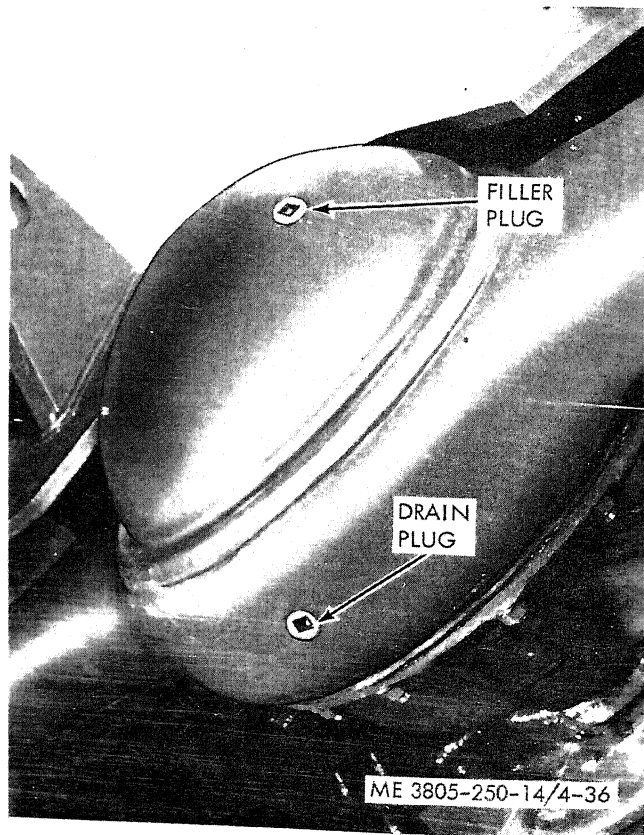

Figure 4-36. Differential service.
c. Differential Service. Remove the differential filler plug (fig. 4-36). Oil should run out of opening. If level is low, add oil as necessary. Refer to the Lubrication Order for the correct lubricant. Differential capacity is 13 quarts.